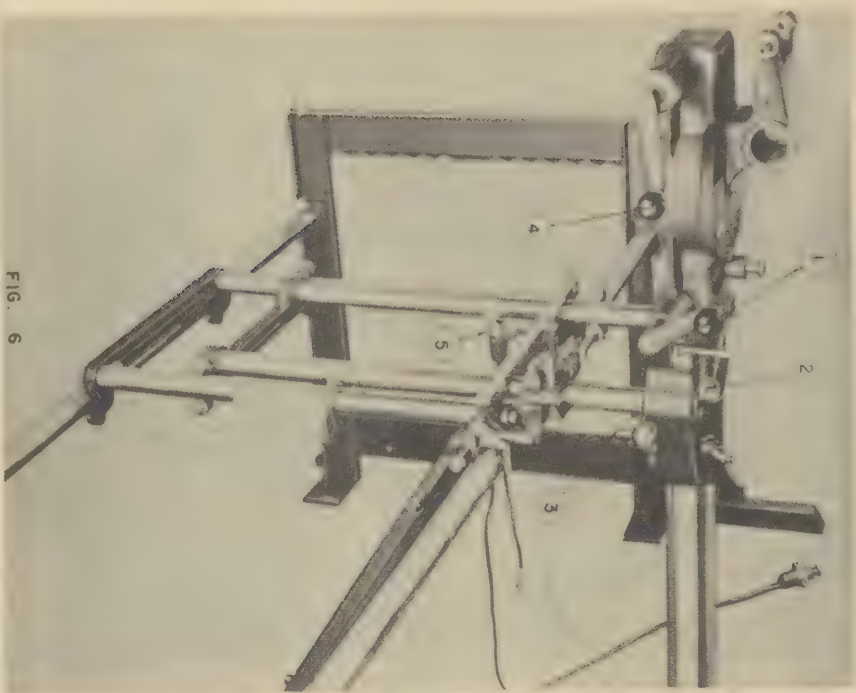

FIG. 6
- (D) Turn crank (6), figure 6, until the x-ray tube is in the position as shown in figure 12.